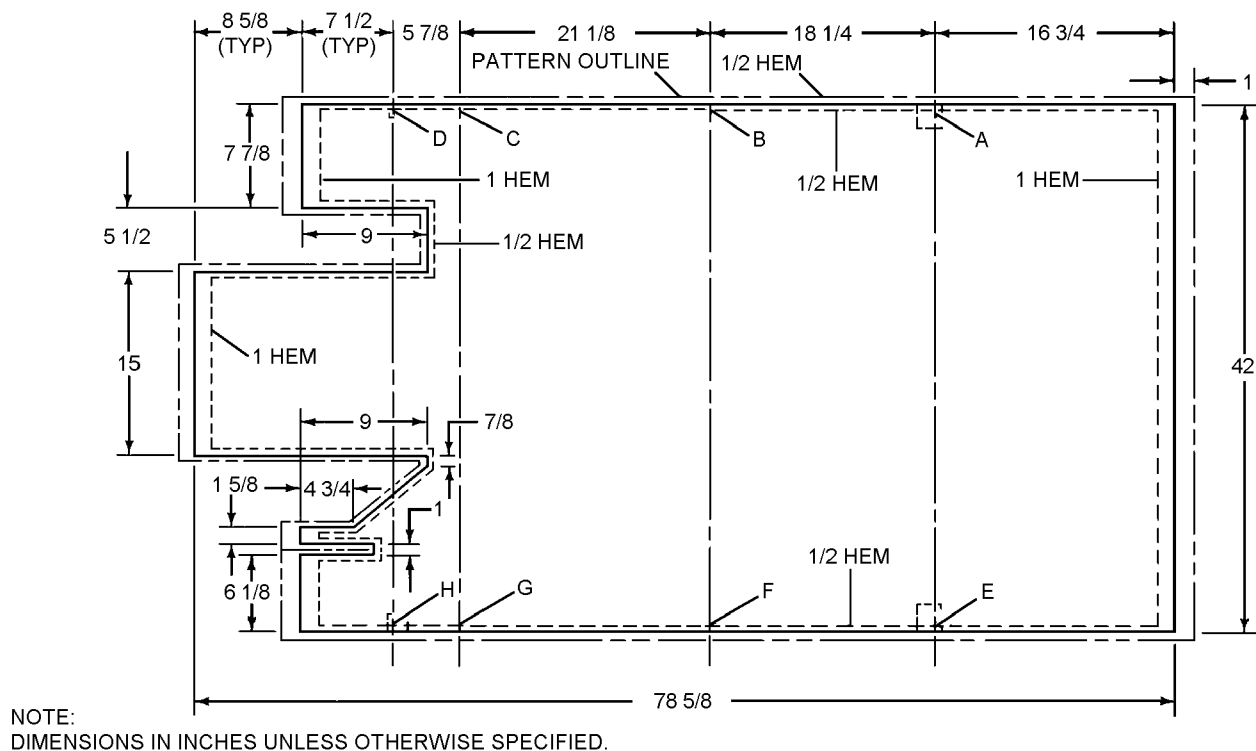
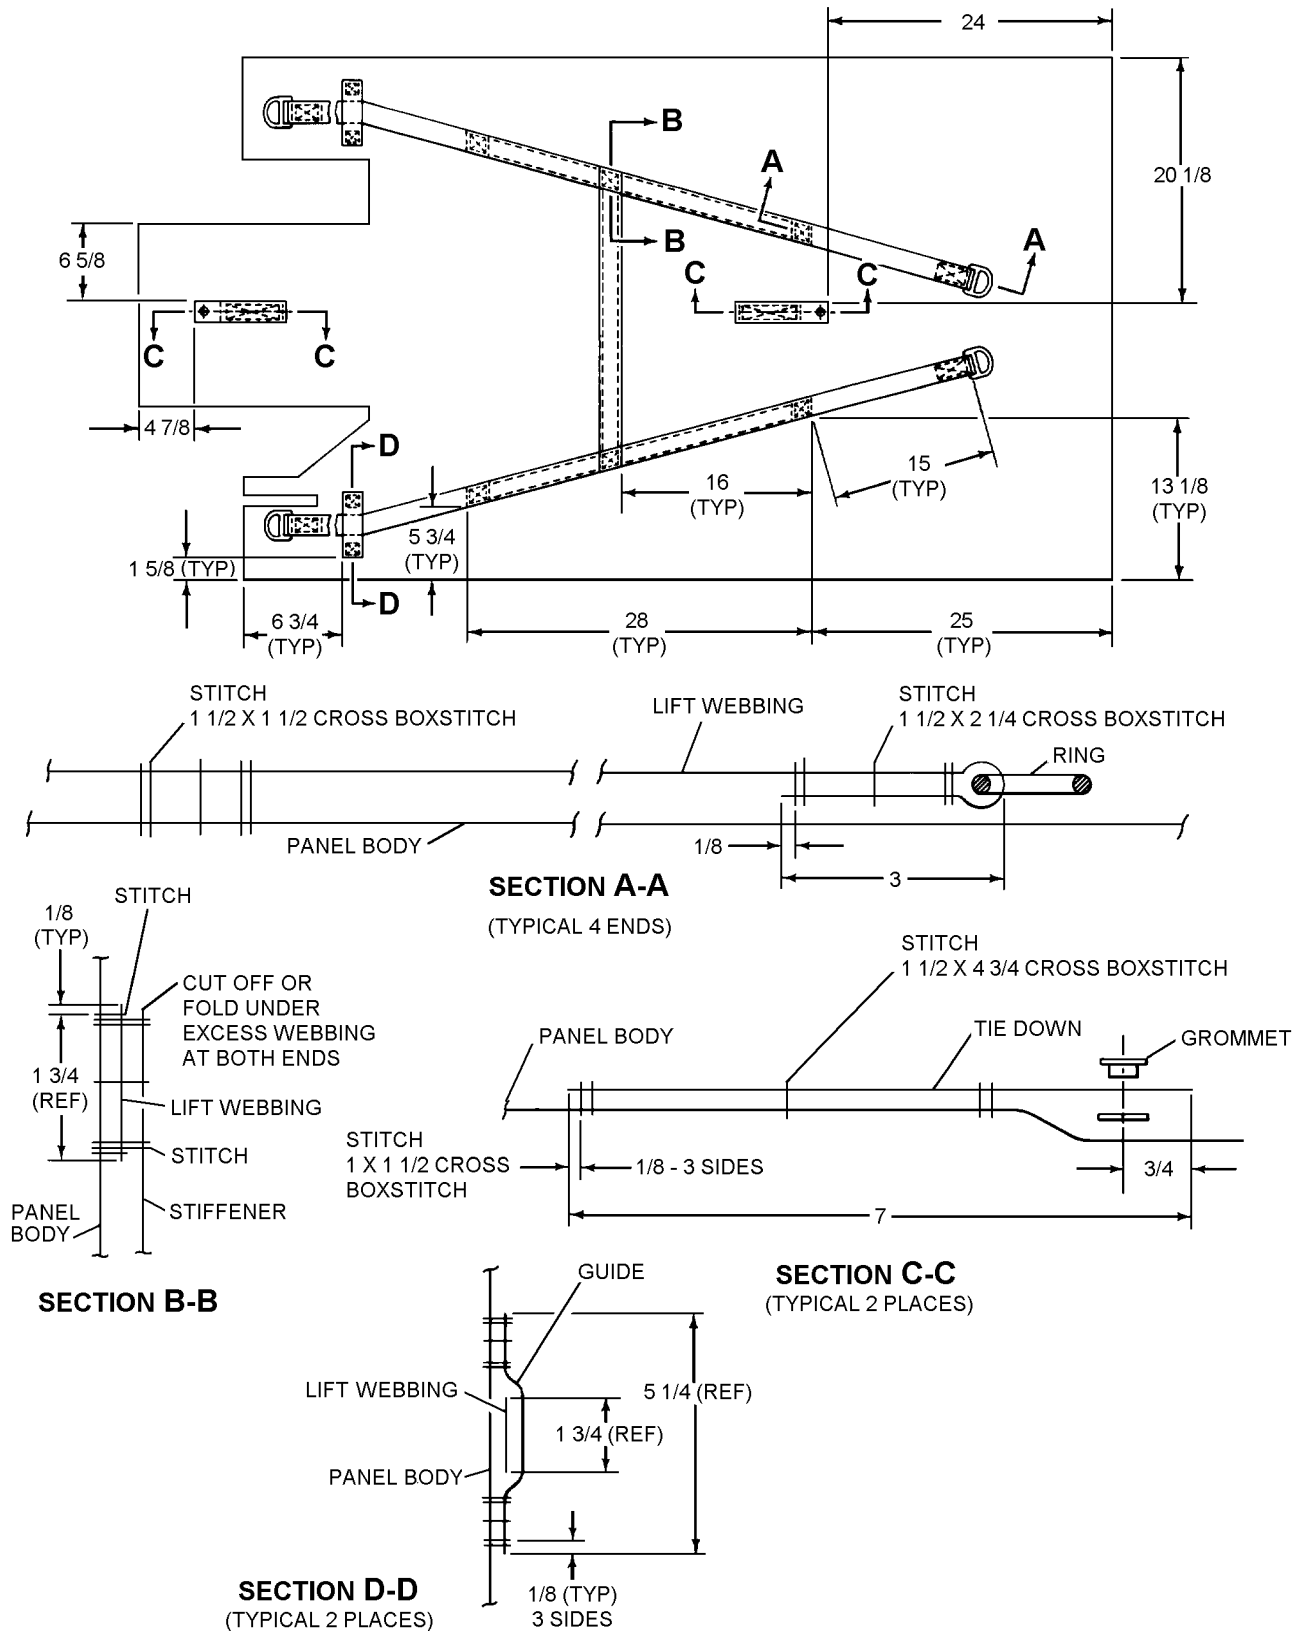
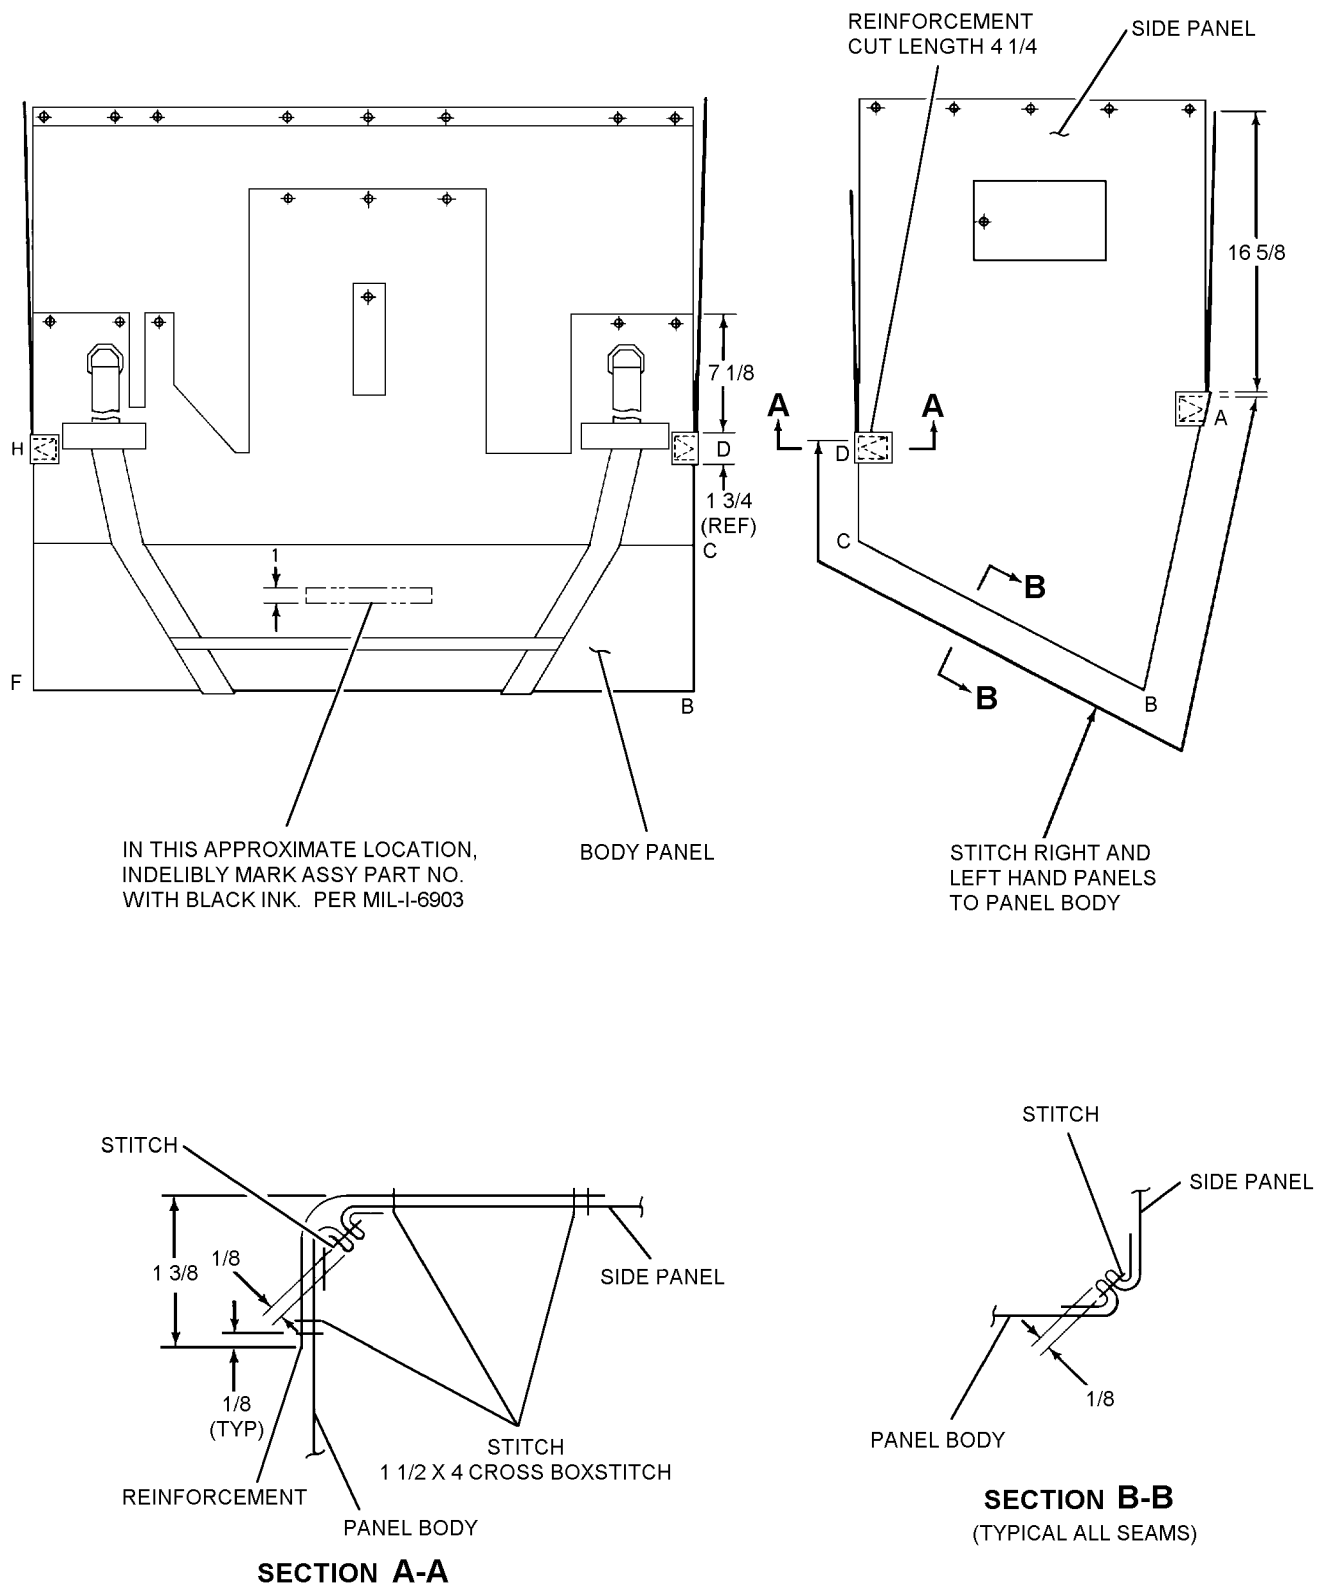

Figure 11-15. Panel Body Dimensions
Figure 11-16. Webbing Locations
Figure 11-19. Assembled Container
1. Lay out and cut the following panels from coated cloth (MIL-C-20696) as shown in figures 11-15 and 11-16.
- a. One Body Panel 43 inches x 80 5/8 inches (figure 11-15).
2. Cut and sear the following pieces of 1 3/4-inch nylon webbing (MIL-W-4088) as shown in figures 11-16 and figure 11-19.
- a. 2 each - Lift Webbings 68 inches long (figure 11-16).
- b. 1 each - Stiffener 26 inches long (figure 11-16).
- c. 2 each - Guides 5 1/4 inches long (figure 11-16).
d. 2 each - Tie Downs 7 inches long (figure 11-16).
e. 4 each - Reinforcements 4 1/4 inches long (figure 11-19).
3. From a 43 inch x 80 5/8 inch piece of coated cloth, fabricate a body panel as shown in figure 11-15. Outermost line allows for 1/2 and 1-inch hems. Cut material so that it will conform to the inside line dimensions shown, after hems are made. First, make 1/2-inch hems, stitching 3/8 inch in along new edges, then make 1-inch hems, stitched 7/8 inch in along new edges, overlapping 1/2-inch hems at corners. Locate and identify marker points A through D and E through H, for ease of assembly with side panels.
4. Take the two 68 inch lengths of lift webbing and attach a D-ring to each end, as shown in figure 11-16, Section A-A. Position these webbing assemblies on panel body and stitch in place as shown. Take 26 inch length of stiffener webbing and position as shown, overlapping two previously attached lengths of lift webbing and stitch in place as shown, Section B-B. Cut off excess webbing.
11. Place right and left hand side panels against body panel so that lettered marker points (A through H), shown on figures 11-15, 11-18 and 11-19 coincide. Stitch side panels to body panel as shown in figure 11-19, Sections A-A and B-B. Position four 4 1/4-inch lengths of webbing (reinforcements) at reinforcement points marked A, D, E, and H on figures, and stitch as shown.